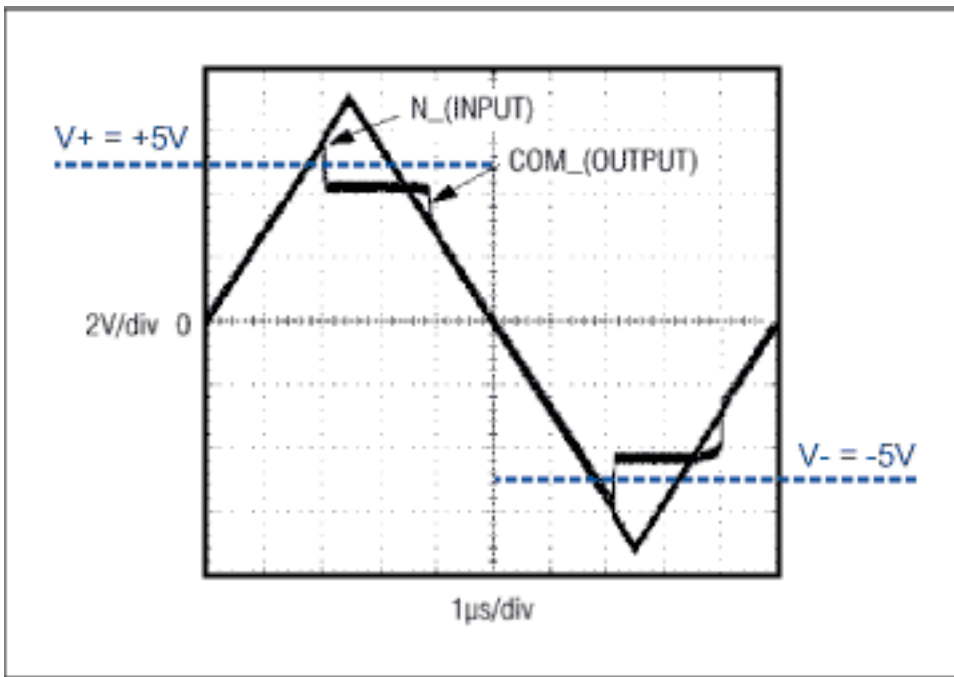

Figure 6. Input vs. output voltage during a fault condition.
**Figure 6** displays the output voltage for a closed, fault-protected switch during input faults of both polarities. Typically, 200ns after the input voltage exceeds  $V_+$  (or  $V_-$ ) by approximately 150mV, the output (COM) equals the positive (or negative) supply voltage minus a drop voltage due to the FET. When the input fault returns within the supply rails, a delay of 700ns (typical) elapses before the output recovers and resumes following the input. That delay depends on the COM output's resistance and capacitance, and does not depend on the fault amplitude. Higher resistance and capacitance at COM increases the recovery time.